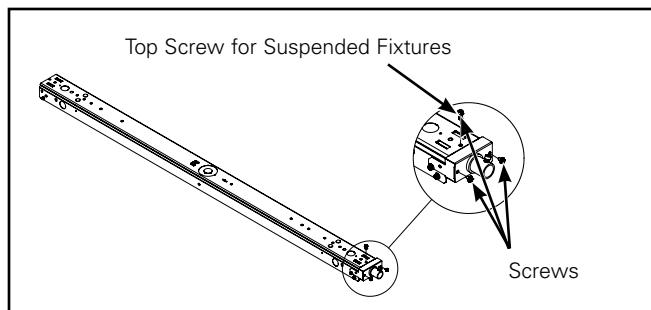

Figure 6.
6. Secure Junction box upper half using screws provided. (Figure 6.)